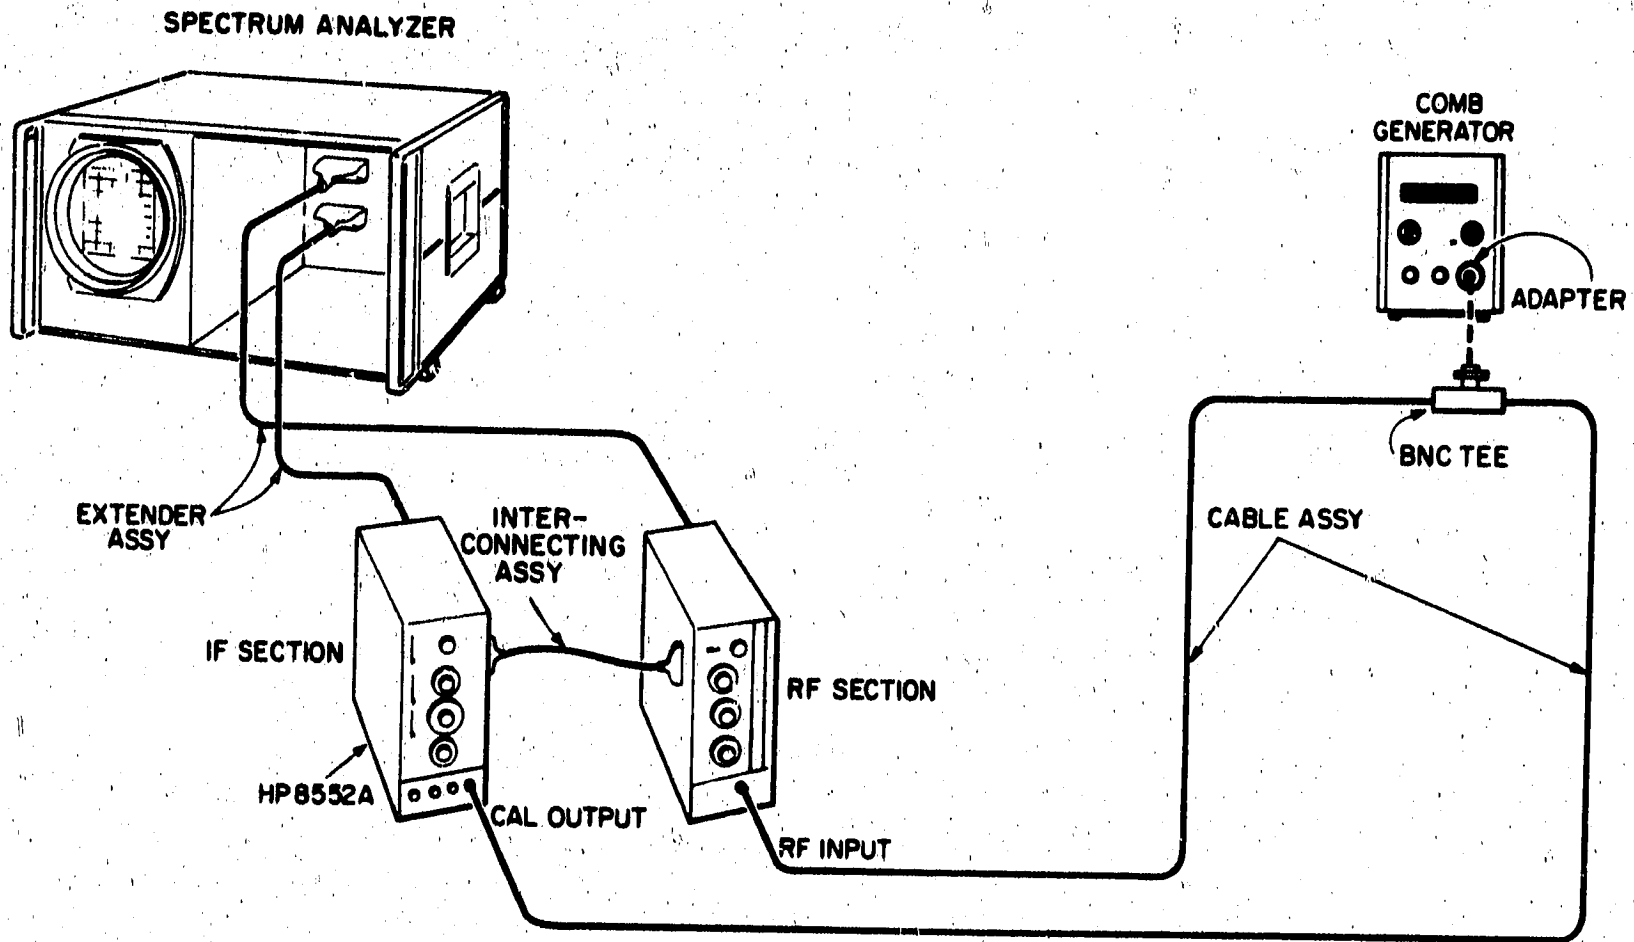

Figure 5-19. 30 MHz Calibration Frequency Adjustment Test Setup
- Connect the equipment shown in Figure 5-19 and make the following control settings: